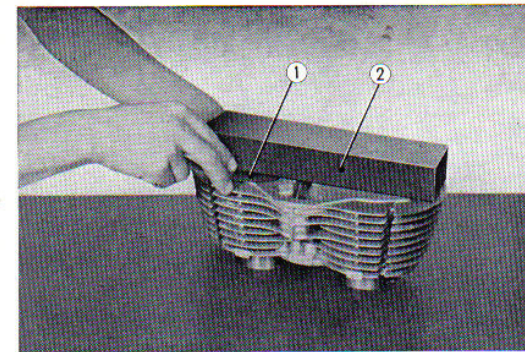

Fig. 3.17 Measuring flatness of gasket surface
1. Inspect gasket surfaces for evidence of blow by or distortion. If surfaces are warped by more than 0.05mm (0.002in) correct by lapping on a surface plate. (Refer to Fig. 3.17)